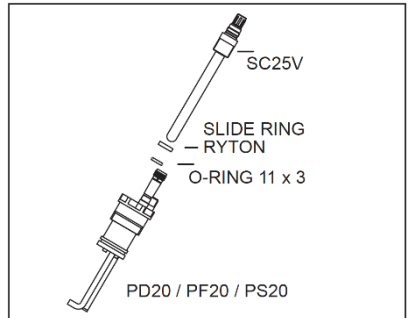

Figure 7: PG13.5 => P.20 fitting
- PD20 immersion fitting / PF20 flow fitting / PS20 flow fitting (see fig 7)